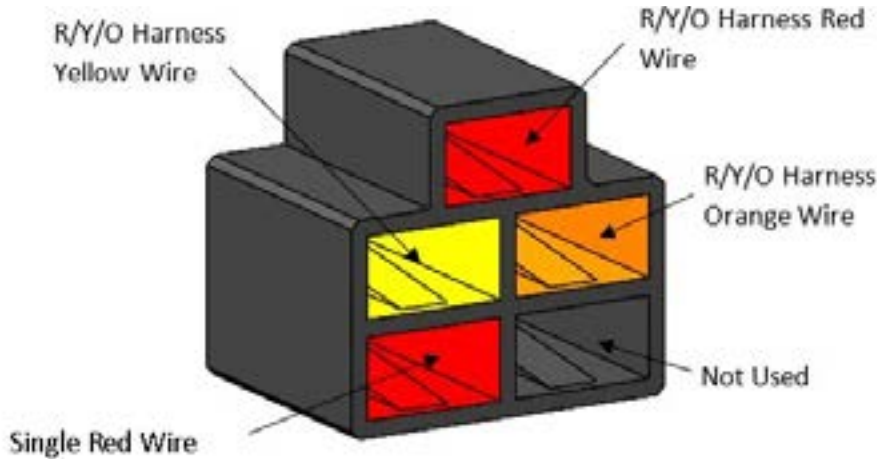

FIGURE 15
33. Locate the 36" Wiring Harness and ensure the wires are correctly connected to the 5-Pin Black Connector as shown in *FIGURE 15* and the 4-Pin White Connector as shown in *FIGURE 16*.